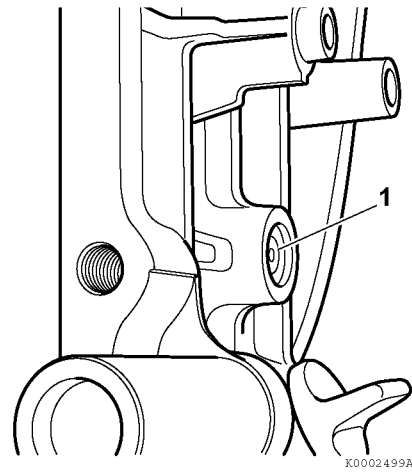

Figure 6-86
7. Carefully pry the seal (1, **Figure 6-86**) out of the bore.